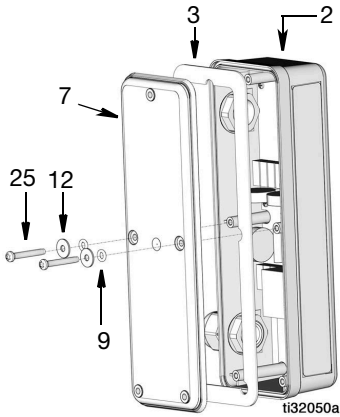

FIG. 38
7. Install two o-rings (9), washers (25) and screws (12) to secure the cover to the PAC electronics enclosure (2) (FIG. 38).